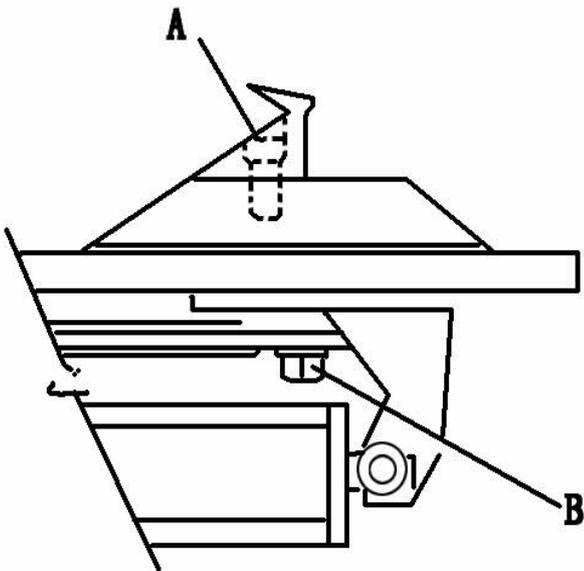

Fig.17
- e. If it is necessary to adjust the vertical arm locking plat because the tool doesn't lock or it doesn't rise from the rim of 2mm necessary for working, adjust nuts as shown in figure 17.